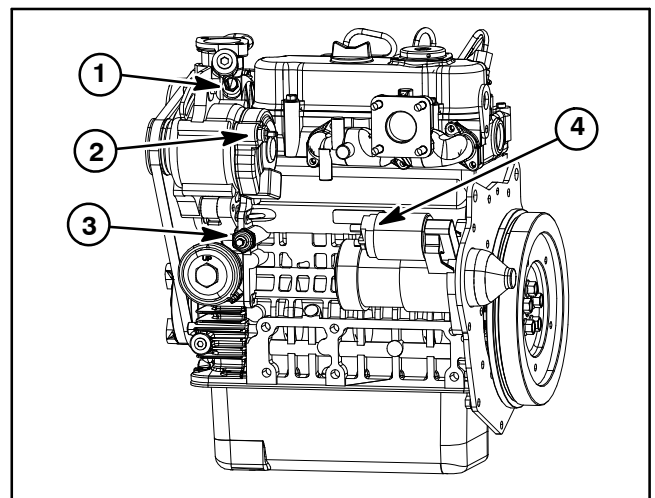

Figure 15
- D. Temperature sender (Fig. 15).
- E. Alternator connector and stud (Fig. 15).
- F. Starter motor solenoid and fusible link harness (Fig. 15).
- G. Oil pressure switch (near oil filter) (Fig. 15).